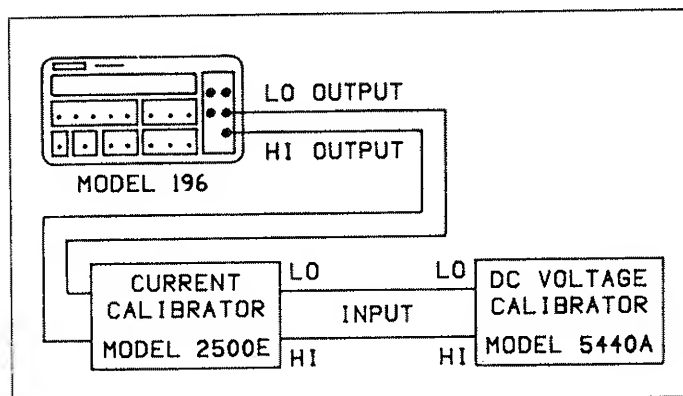

Figure 4-5. Connections for DC Current Verification
2. Connect the DC current calibration source to the Model 196 as shown in Figure 4-5.